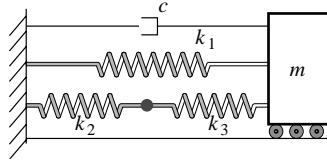

Figure P1.103
- 1.103** Calculate the natural frequency and damping ratio for the system in Figure P1.103 given the values $m = 10$ kg, $c = 100$ kg/s, $k_1 = 4000$ N/m, $k_2 = 200$ N/m and $k_3 = 1000$ N/m. Assume that no friction acts on the rollers. Is the system overdamped, critically damped or underdamped?